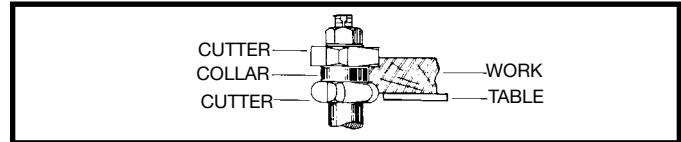

Fig. 45
4. The collar between cutters method, as shown in Fig. 45, has both the advantages and disadvantages of the first two methods and is frequently used where both edges of the work are to be shaped.